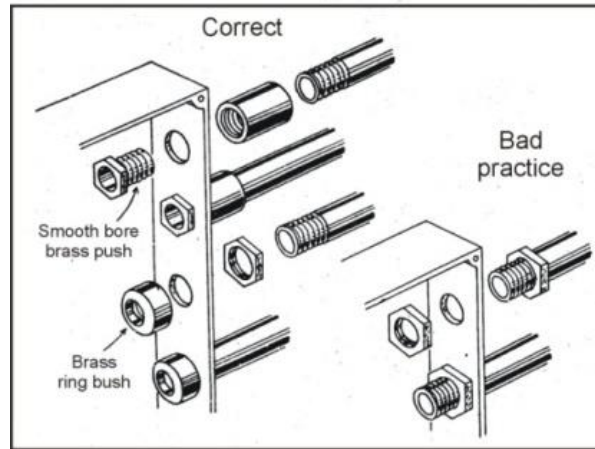

Fig 7.3
- vii. Die and stock for threading the conduits. **Fig 7.3**